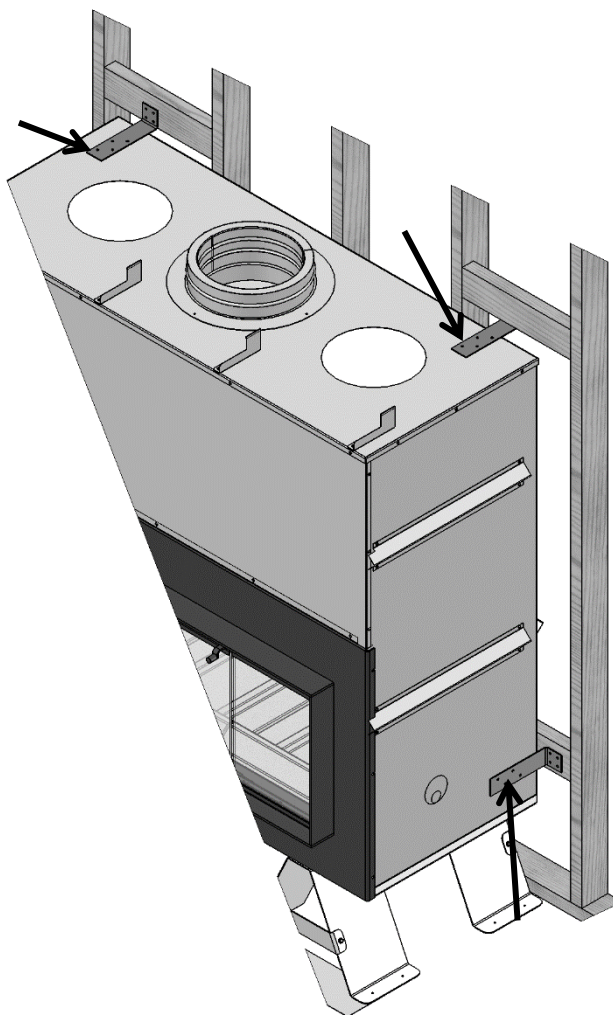

FIGURE 8 ANTI-TIP STABILITY BRACKET INSTALLATION
You **MUST** install two anti-tip stability brackets (D) at the top of the fireplace. They must be solidly screwed to the back wall and to the top of the fireplace. Depending on your specific installation, you can install the anti-tip stability brackets in two different ways. Refer to Figure 8 for examples of installation of the anti-tip stability brackets. Use eight of the large self-tapping screws provided (E) to attach both anti-tip stability brackets to the top of the fireplace casing.